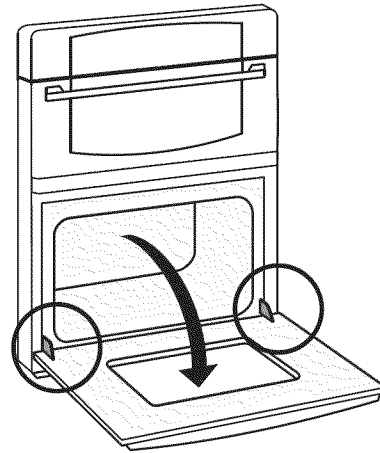
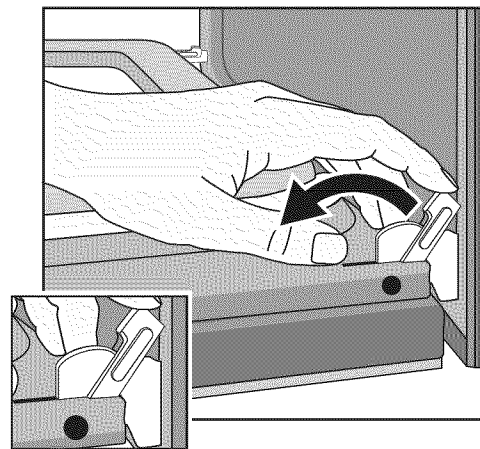

Fig. 1
Fig. 2
1. Fully open the oven door -Fig. 1-.Unlock both oven door hinge locks by pulling them up and away from the oven frame until they stop (unlocked position) -Figs. 2-. If needed use a small flat-bladed screwdriver to assist with loosening the door hinge locks.